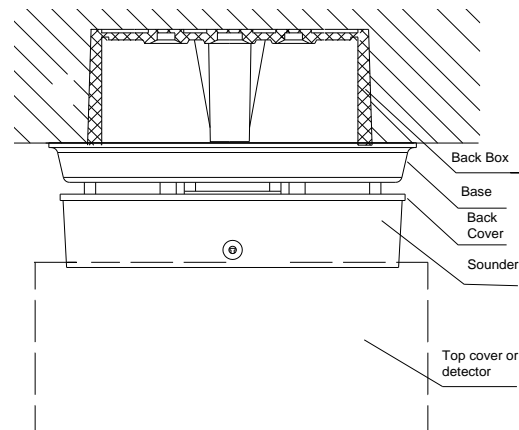

Fig. 2
- 2 Mounting of the sounder is shown in Fig. 2.